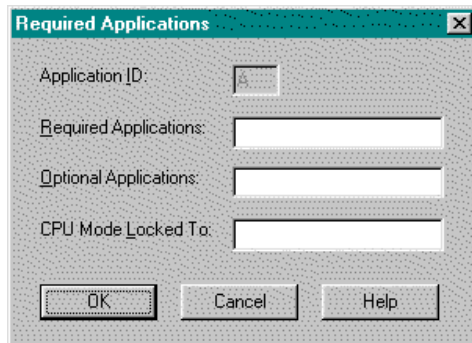

Figure 6.15
2. Select the **ReqApp** button under the Processor Information window on the PLC Configuration dialog box. The Required Application dialog box appears (Figure 6.15).